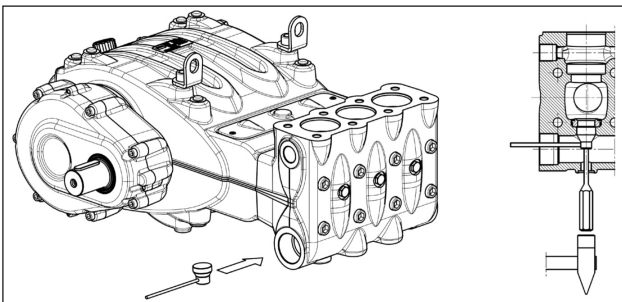

Fig. 102
**If removing the suction valve unit proves to be particularly difficult (for example because of incrustations due to prolonged inactivity of the pump), use the extractor tool (code 27516200 (pos. ①, Fig. 102) as indicated.**